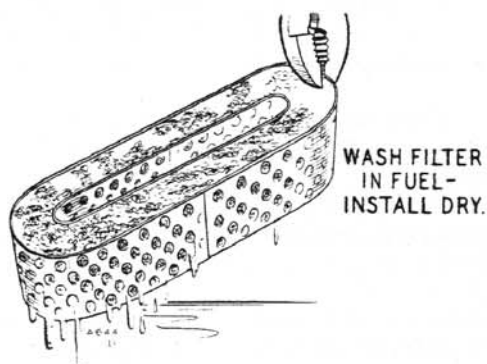

Fig. 16 Air Silencer and Flame Arrester
- E. - **AIR CLEANER (Silencer).** See figure 16. Wash in fuel and install dry.